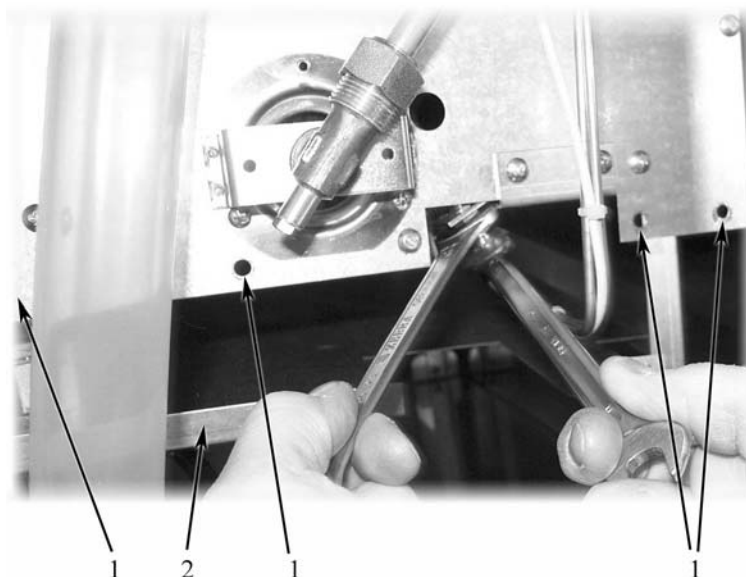

Fig. 6
- Open the doors and unscrew the screws fixing lower flue box protection (item 1 in Fig. 6) and lower it;